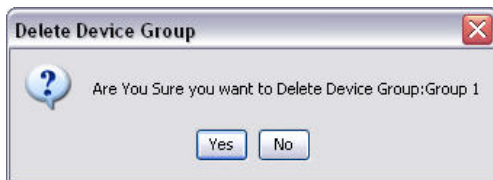

FIG. 144
- c. Use the mouse to select the group folder on the Matrix System side of the screen again. Click the Delete Group button. The Delete Device Group prompt displays asking if you are sure you want to delete the Device Group: named "X" (in FIG. 144 below, the folder is named Group 1). Click the Yes to delete the Group folder or No if you do not want to delete it.